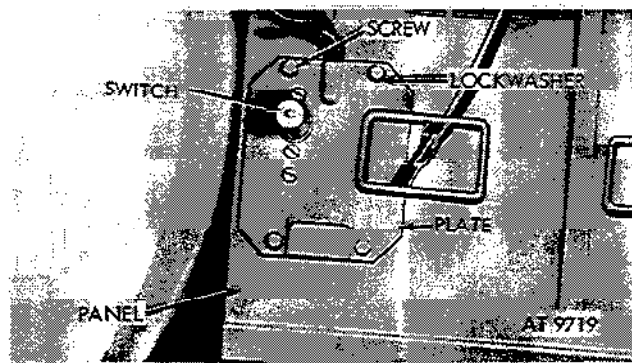

Figure 2-279. Remove mounting plate from floor panel.
(1) Remove four screws and lockwashers securing mounting plate to floor panel (fig. 2-279).